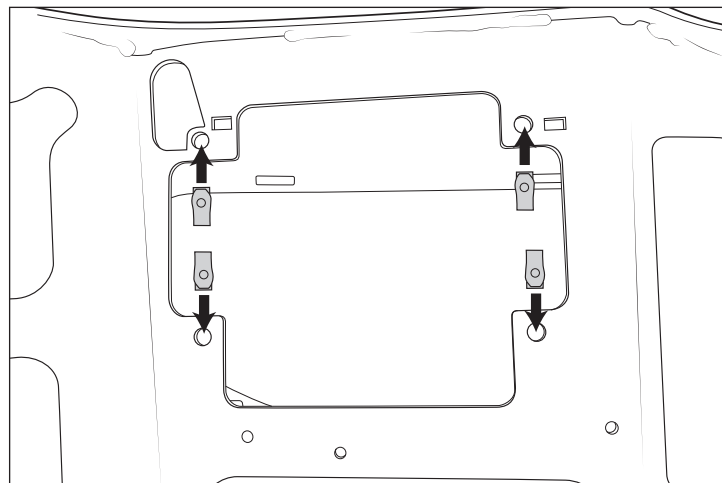

Figure 28
1. Install four of the supplied M6 U-Nuts onto each bumper corner (fig. 28).